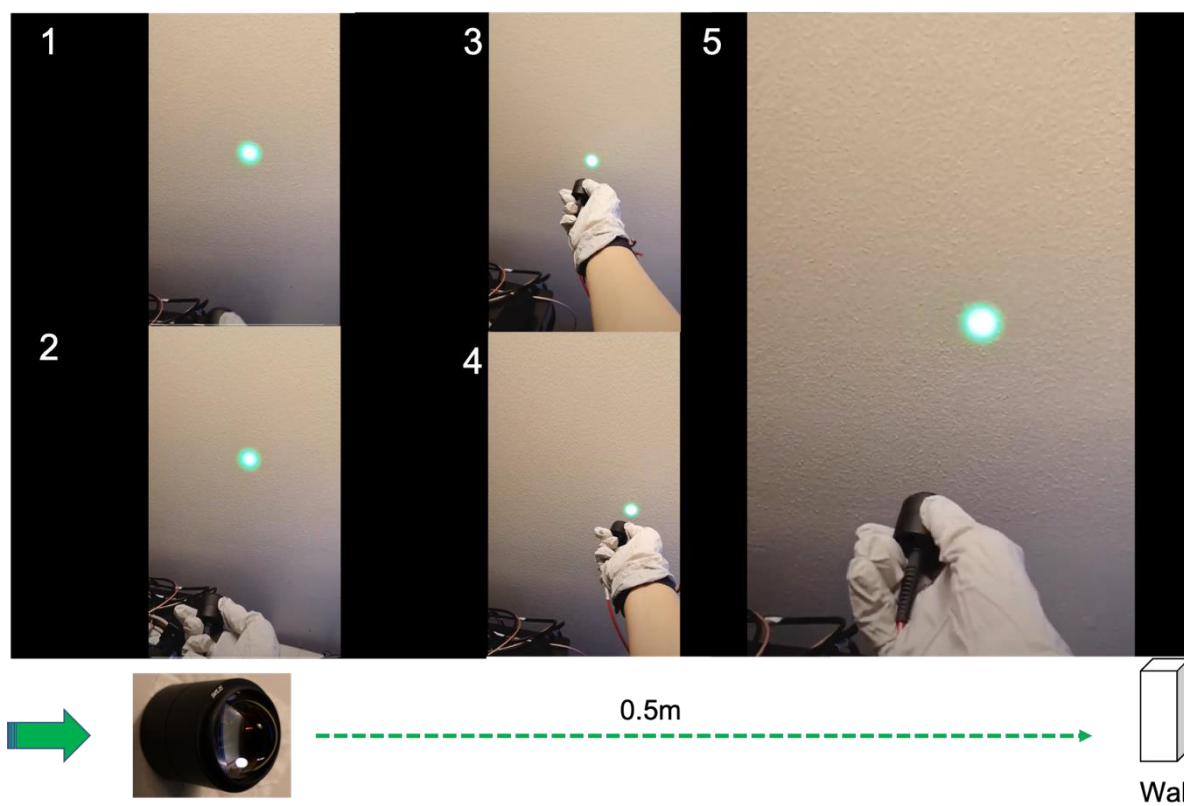

Figure 15: Checking output light from TFB after passing through aspherical lenses and before entering the kinematic filter cage.
**Step53.** Confirm that the light coming out of Lens tube of Step51 is collimated. For this, attach a green LED (item h) to the mount and follow visualize spot changes by approaching and distancing the assemble relative to a white wall (see Fig.15)